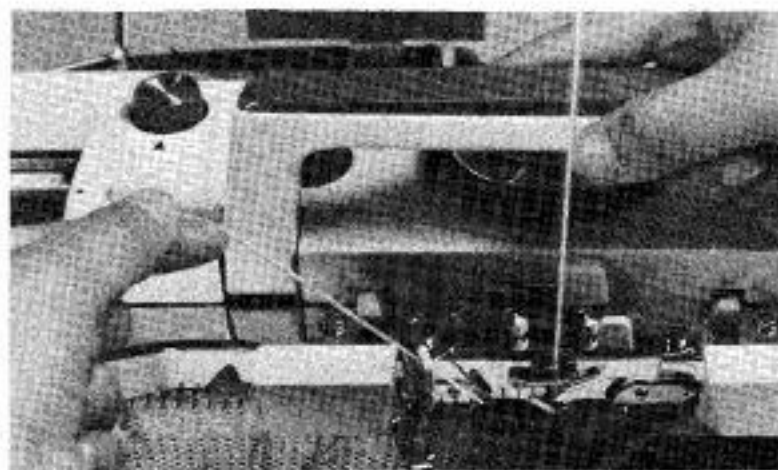

Fig. 137
1st row Thread the main colour wool into one of the Main Feeders. With the left hand guide the fine contrasting colour yarn through the leading Subsidiary Feeder (left hand), and move carriage from right to left. (Fig. 137)
2. Never thread the wool through Overhead Yarn Feeder when knitting with Subsidiary Feeder, but always control and guide it with your left hand. (see Fig. 137)